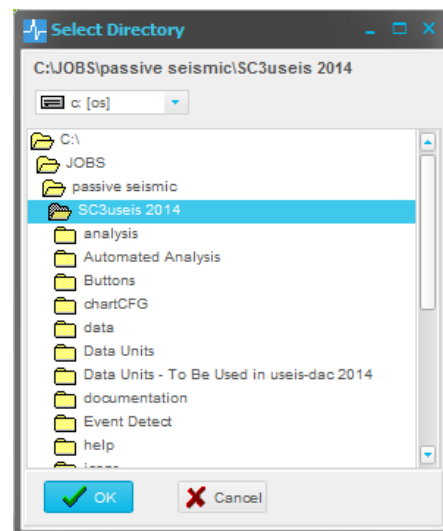

Figure 6: Directory Selection Dialog Box
- **Data Directory** - the default data file storage directory is selected by pressing the directory list icon . Figure 6 illustrates the dialog box which appears when this icon is selected. The user browses the available drives and directories and selects the one most appropriate for seismic data file storage.
- **Source Wave Type** - S-wave (S) or P-wave (P) - dominant source wave type under analysis. The default wave type is *S-wave*.